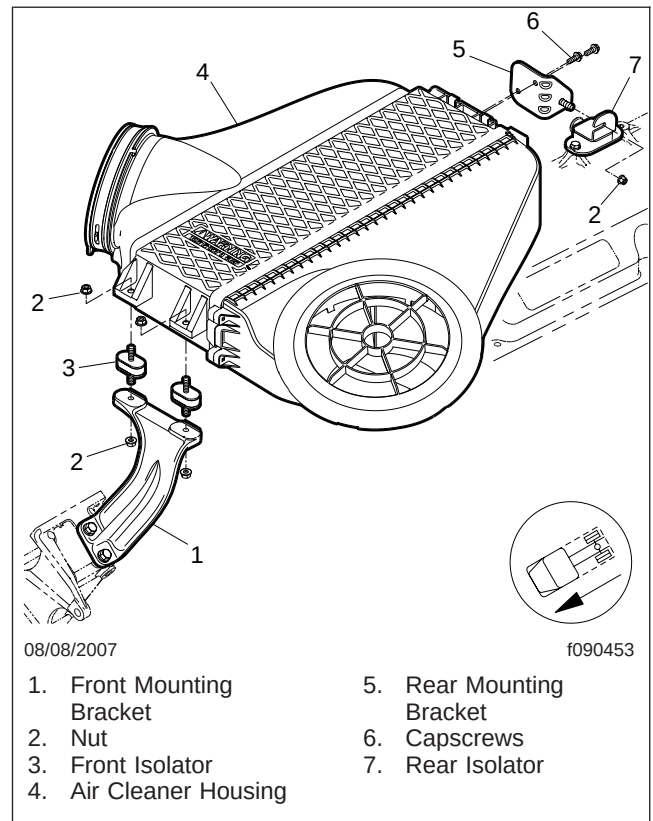

Fig. 2, Air Cleaner Housing Mounting
3. Remove the top nuts from the front isolators. See Fig. 2.